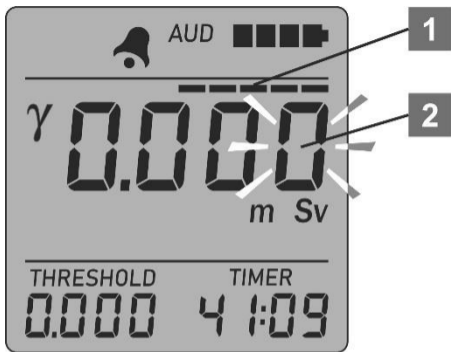

Figure 12 – LCD of the dosimeter
To proceed to the submode of a new value programming of alarm threshold level, press and hold the THRESHOLD button until a stripe (1) is displayed on the LCD (Figure 12) that is “moving” across the instantaneous value indicator. The new threshold level with a blinking low-order digit (2) should also appear on the LCD.